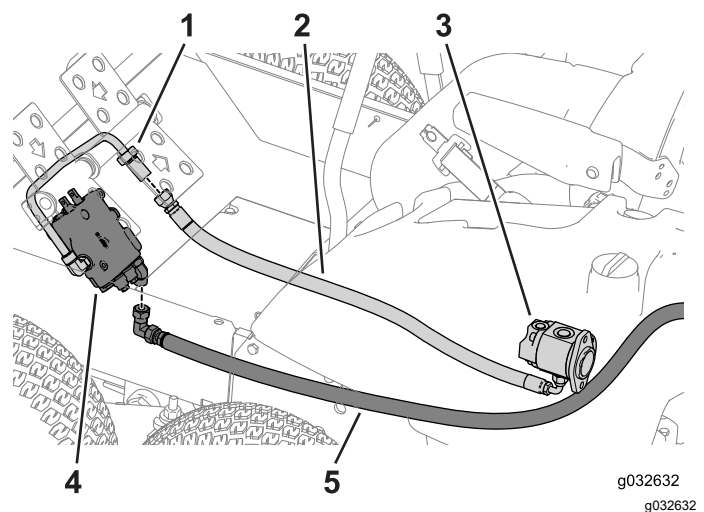

Figure 81
4. Route the hoses toward the front of the machine (Figure 81).